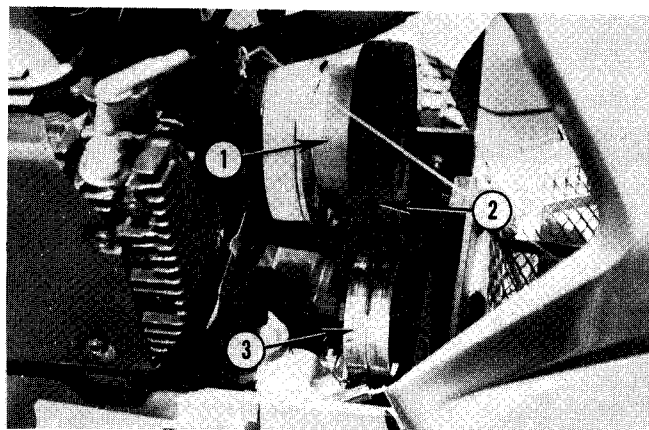

Fig. 33 — Mid PTO Belt Replacement
2. Relieve tension of belts, No. 2, Fig. 33, by pulling spring-loaded idler, No. 3, outward with one hand, then remove belts from pulleys with other hand.